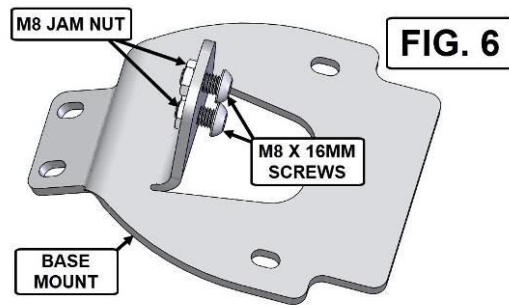

FIG. 6
7. THREAD THE TWO M8 X 16MM LONG SCREWS INTO THE BASE MOUNT AS SHOWN IN FIG. 6. PUT THE TWO SUPPLIED JAM NUTS ON THE OPPOSITE SIDE AS SHOWN IN FIG. 6. DO NOT TIGHTEN YET.